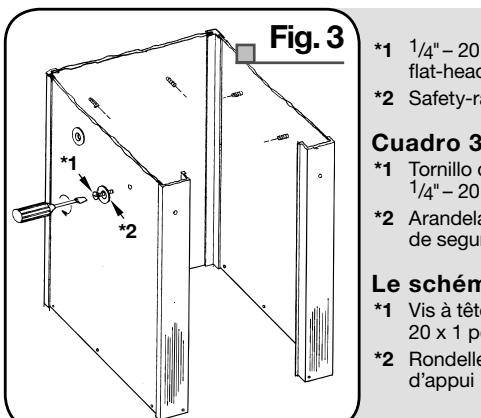

Fig. 3
3. Insert a $\frac{1}{4}$ " - 20 Flat Head Machine Screw through the hole in molded Safety Rail Washer. Note that there are two holes punched in the center of each panel. Screw the washer/screw assembly into each hole from outside as shown. **Do not overtighten!** (**Fig. 3**)